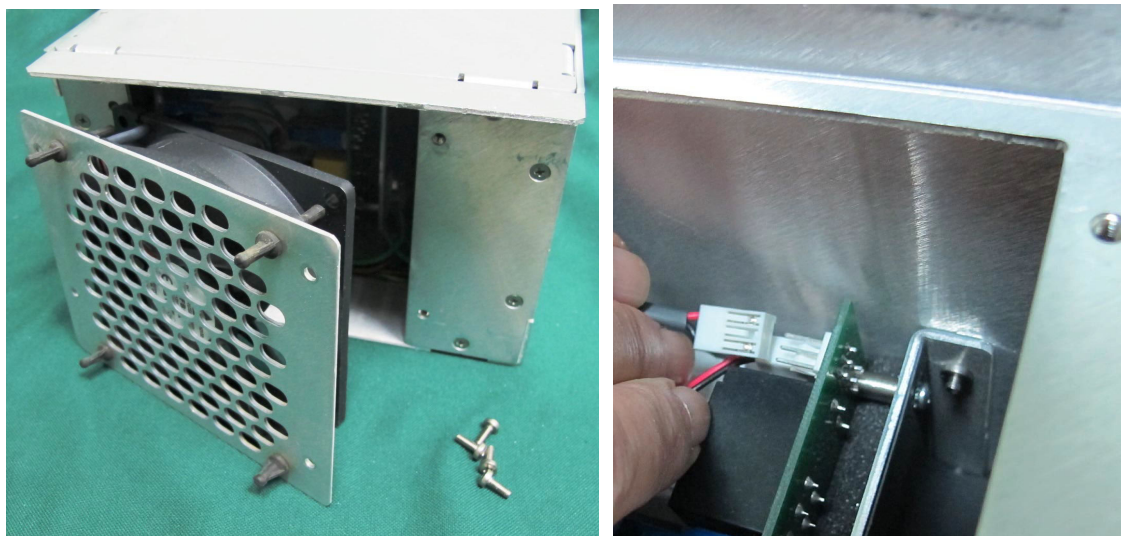

Figure 8-204 Disconnect the Fan Cable from the AC Distribution Box
- 3.) Carefully withdraw the AC Box Fan and disconnect the fan cable from the connector on the AC Distribution Box - see Figure 8-204 below.
- 3.) Connect the fan cable to the connector on the AC Distribution Box - Figure 8-204.